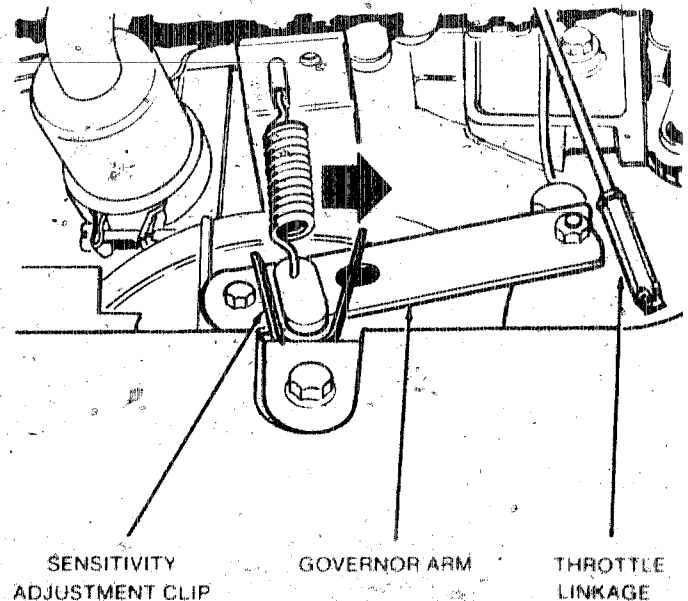

FIGURE 1. GOVERNOR ARM
1. Push downward on the throttle linkage to separate it from the governor arm as shown in Figure 1.
2. Move the sensitivity adjustment clip over about 1/2 inch (13-mm) to the position shown in Figure 1.